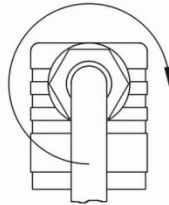
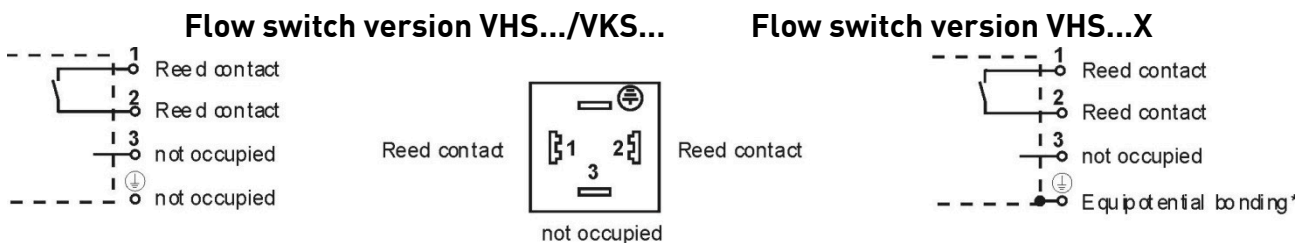

Fig. 11
Fig. 13 * To prevent electrostatic charging the VHS...X devices have to be connected to the equipotential bonding via the plug connector.
- Connect the wires as displayed in the connection diagram (→ Fig. 13).
- Press the core ⑧ into the cable socket ② until it locks into place.
- Put the central screw ⑥ in the cable socket ② and tighten the screwed cable gland ⑤ M16x1,5 (→ Fig. 11).